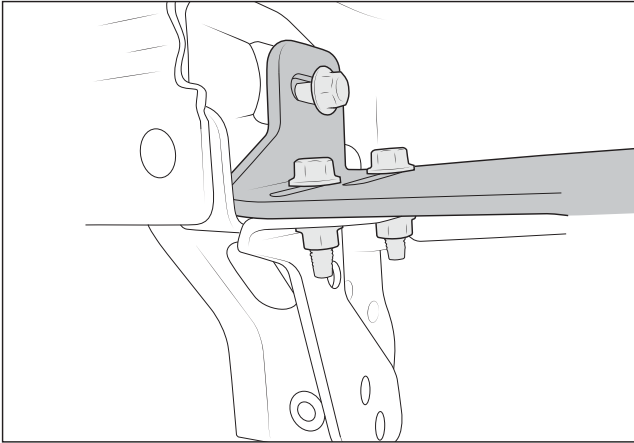

Figure 13
5. Bolt winch plate in place to the support brackets using the provided M10x40mm bolts and nuts. Bolts should be inserted from the top down. Hand tighten, do not fully torque (fig. 13).